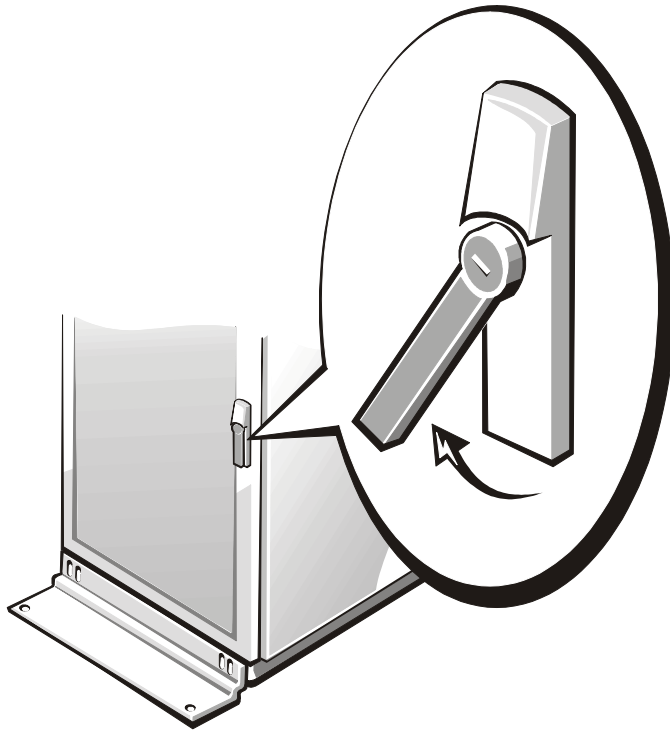

Figure 1-2. Opening the 24-U Rack Cabinet Front Door Latch
| Figure 1-2. Opening the 24-U Rack Cabinet Front Door Latch | 1-4 |
If you have a 24-U (1 U=1.75 inches) rack cabinet, unlock and twist the handle clockwise and open the door (see Figure 1-2).
4. Close the door latch by rotating the handle counterclockwise until it stops (see Figure 1-2).